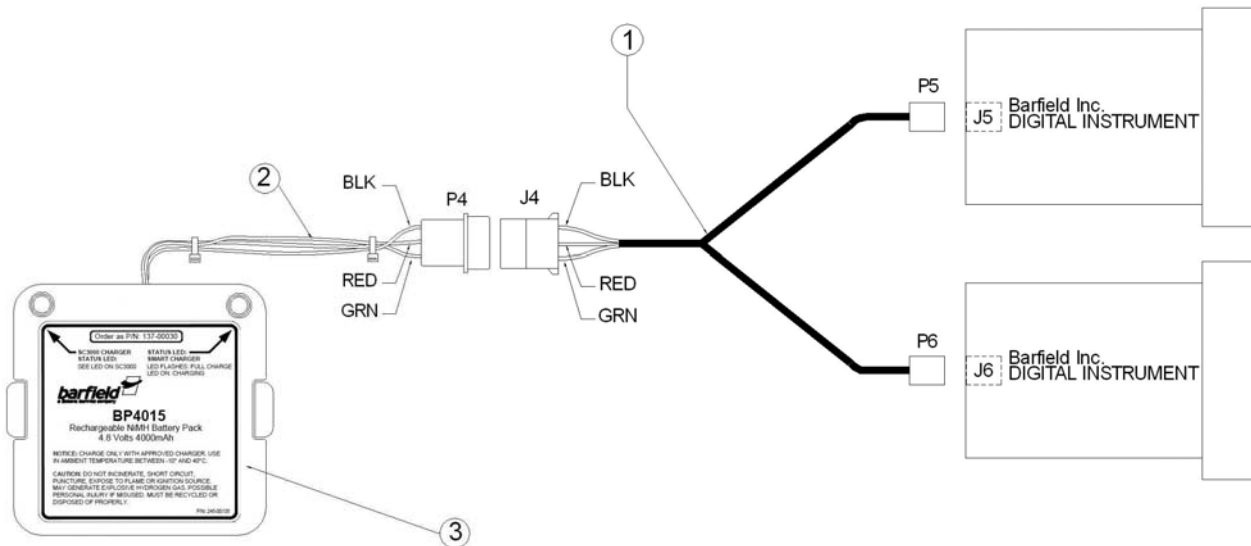

FIGURE 3
3. Connect the wire harness (Item 1, Figure 3) to digital instrument(s) and battery pack base harness (Item 2, Figure 3).
4. Reattach panel to test set. Insert rechargeable battery pack (Item 3, Figure 3) and snap onto mounting base. Ensure Battery pack is inserted properly into base.